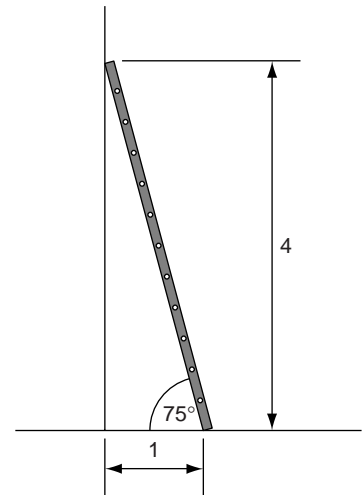

Figure 3.5 A correctly erected ladder.
- The angle of the ladder to the building should be in the proportion 4 up to 1 out or 75° as shown in Fig. 3.5